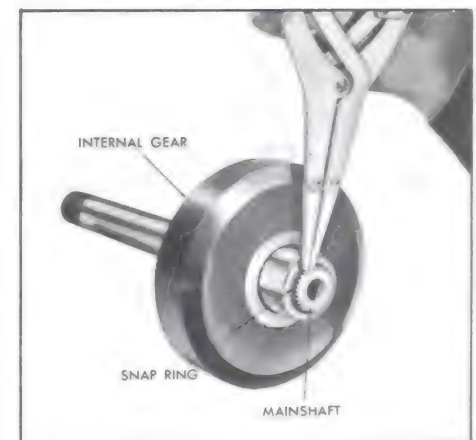

Figure 5-568
13. If necessary, remove the rear internal gear to mainshaft snap ring to remove mainshaft. See Figure 5-568.